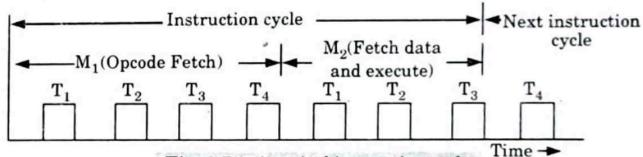

Fig. 2.7.1. A typical instruction cycle.
8. Fig. 2.7.1 exhibits instruction cycle and machine cycle within it. It shows two machine cycles M₁ and M₂.